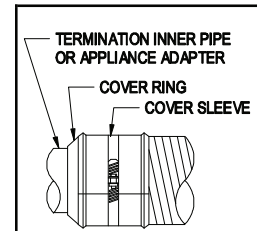

Figure 25
9. Maintain the following clearances to combustibles. If the appliance collar is within 18" of combustible material, wrap minimum 1-1/2" ceramic insulation (installer-supplied) around the exposed portion of the termination inner pipe and appliance adapter (Figure 25).
9. Slide the cover sleeve and cover ring together to engage the ring in the groove of the sleeve, and tighten the cover sleeve clamp (Figure 25).
10. To maintain 1" clearance to combustibles, wrap minimum 1-1/2" thick ceramic insulation (installer-supplied) around the exposed portion of the termination inner pipe (Figure 25), and secure with foil tape (installer supplied).